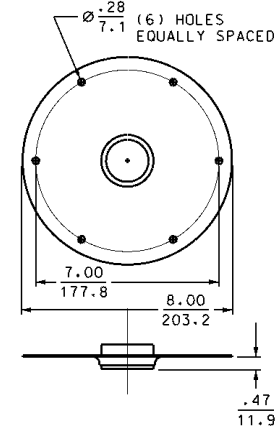

Figure 5
**SIDE MOUNT** (For mounting plate options see figure 5 on page 6)